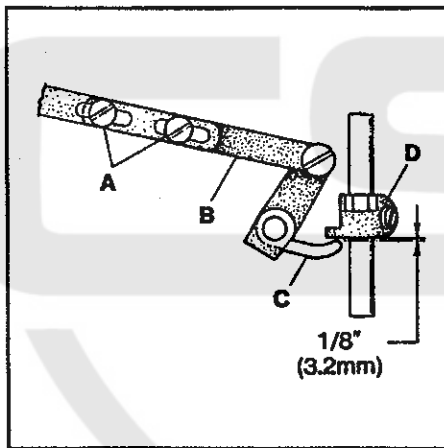

FIG. 21
Replace the presser spring and the presser bar regulating screw. Loosen screws (A, Fig. 21) in lifter lever link assembly (B) and position lever (C) so there is $1/32"$ (0.8mm) clearance between it and presser bar guide (D) when the feed dogs are below the throat plate.
Make sure the $1/32"$ (0.8mm) clearance between the presser bar lifter lever and presser bar guide has been maintained. Refer to Fig. 21 if readjustment is necessary.